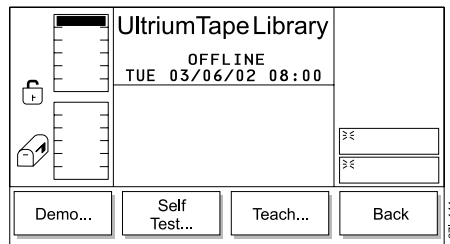

Figure 331. Exercise Submenu
4. Press the button below the **Exercise** softkey. The Exercise Submenu displays (see Figure 331).